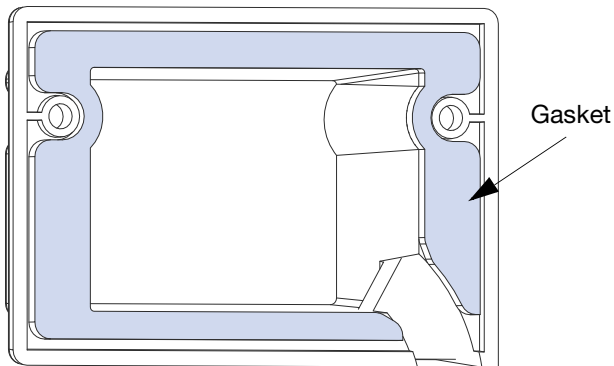

Figure 38: Rain Hood with Gasket Attached
**NOTE:** The rain hood comes with the gasket attached (Figure 38).